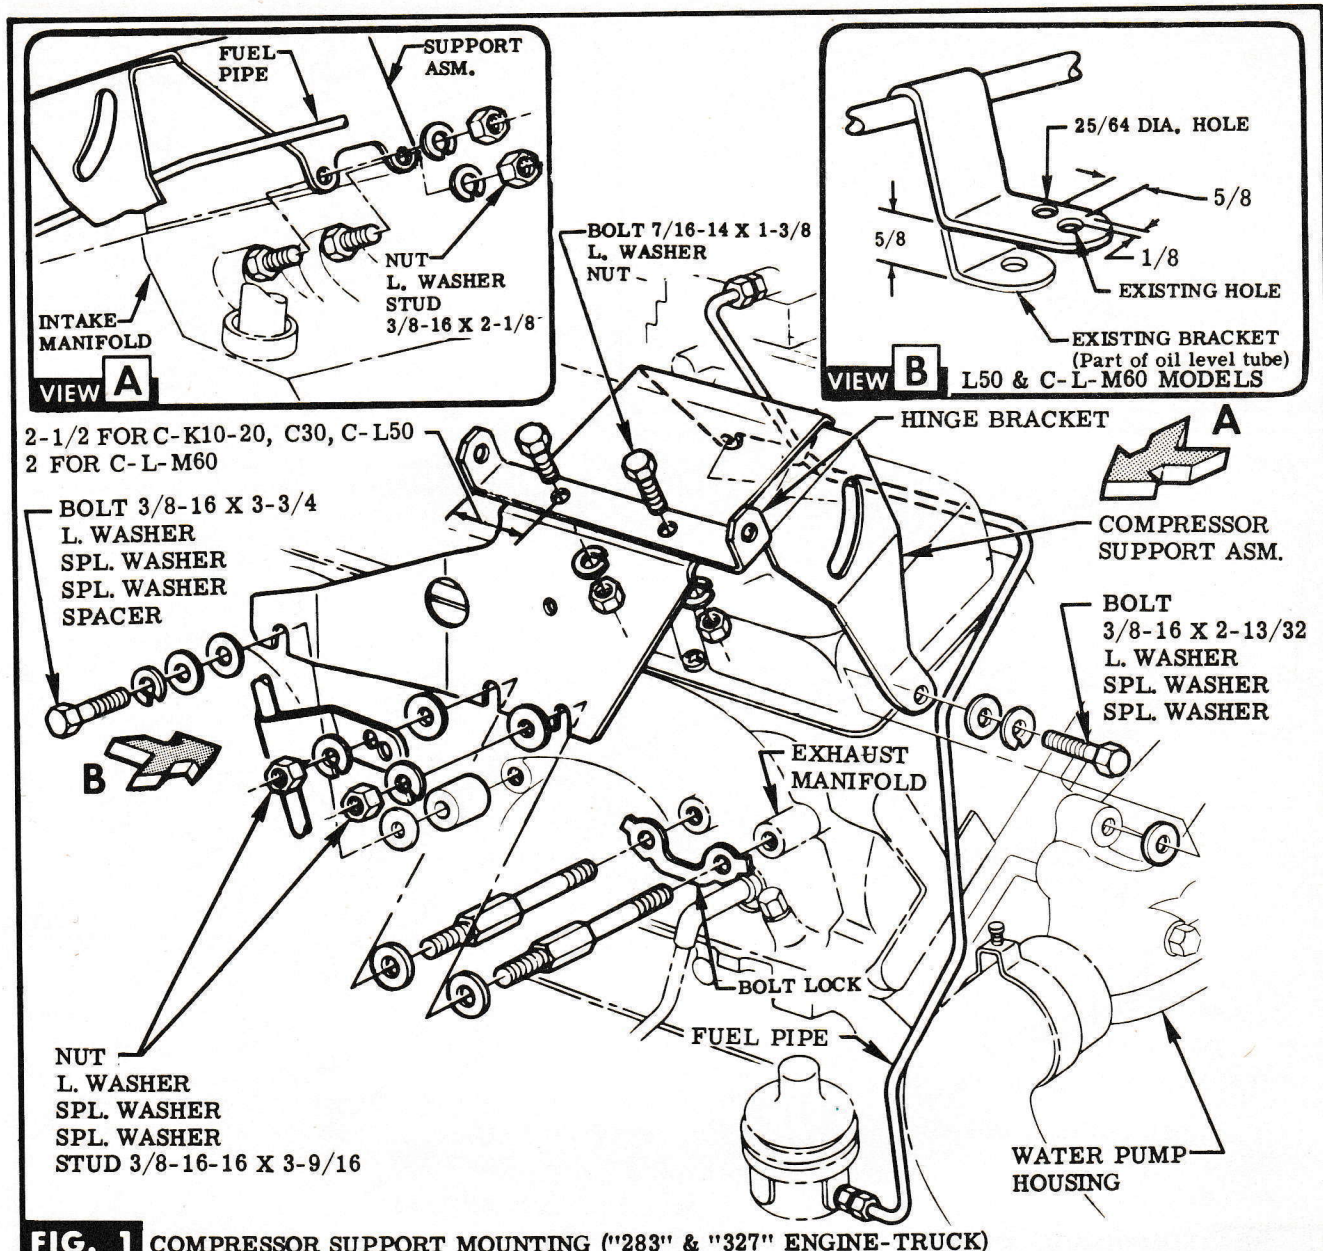

FIG. 1 COMPRESSOR SUPPORT MOUNTING ("283" & "327" ENGINE-TRUCK)
STEP 1 (L50 & C-L-M60) REMOVE & RETAIN OIL LEVEL TUBE & GAUGE. SEE FIG. 1.
STEP 2 REMOVE & REPLACE (2) R. H. FRONT BOLTS ON INTAKE MANIFOLD WITH BOLT STUDS PROVIDED. SEE VIEW A.
STEP 3 REMOVE & REPLACE (2) FRONT BOLTS ON R. H. EXHAUST MANIFOLD WITH PROVIDED BOLT LOCK & STUDS. SEE FIG. 1.